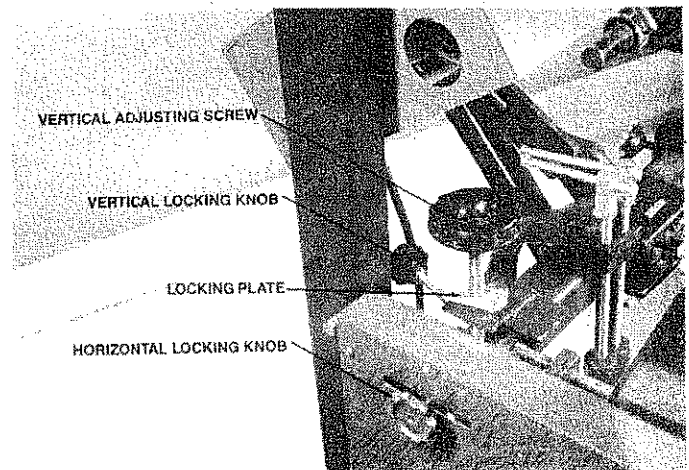

FIG. 65
- C. Loosen the two locking knobs on the pivot assembly on the left side of the square mounting bar so that it can be adjusted in both the vertical and horizontal plane. (See FIG. 65)